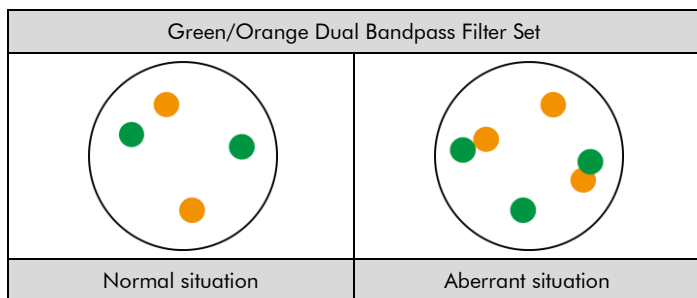

Fig. 2: Expected results in normal and aberrant interphase nuclei
**Normal situation:** In interphases of normal cells or cells without a translocation involving the respective loci, two separate green and orange signals appear (see Fig. 2).
**Aberrant situation:** A gene fusion is indicated by one separate orange signal, one separate green signal, and two orange/green fusion signals. (see Fig. 2).